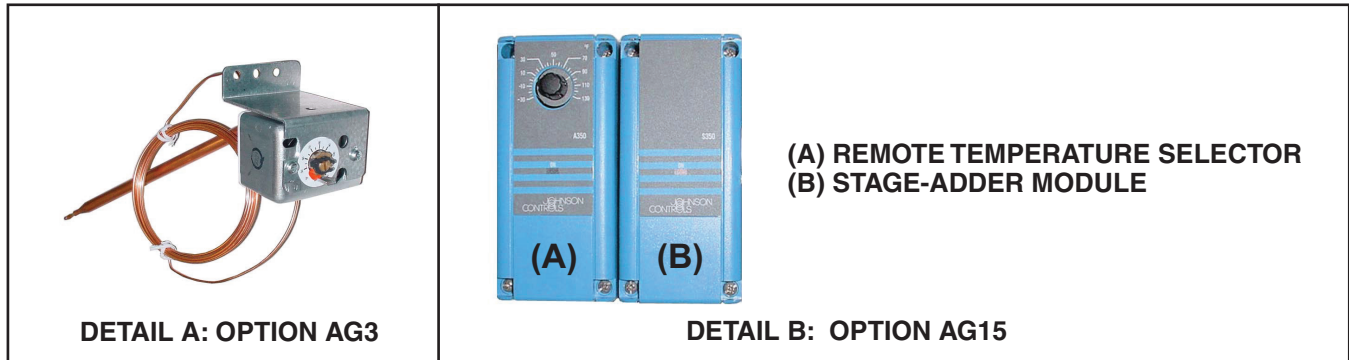

Figure 30. Ductstat Options
- Includes ductstat (PN 41700) with capillary tubing (see Figure 30, DETAIL A).
- Includes ductstat with electronic remote setpoint module (see Figure 30, DETAIL B).